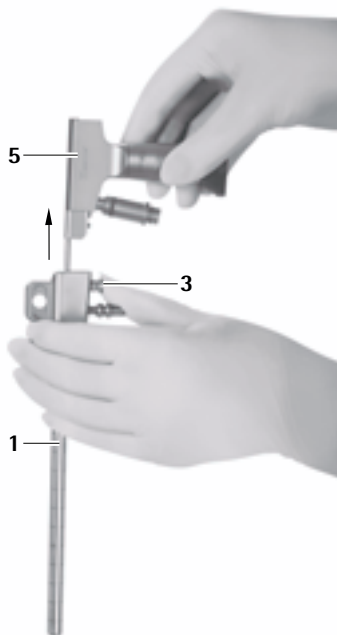

Fig. 8
- Press release button **3** and remove endoscope **5** from the MINOP inVent trocar **1**, see Fig. 8.